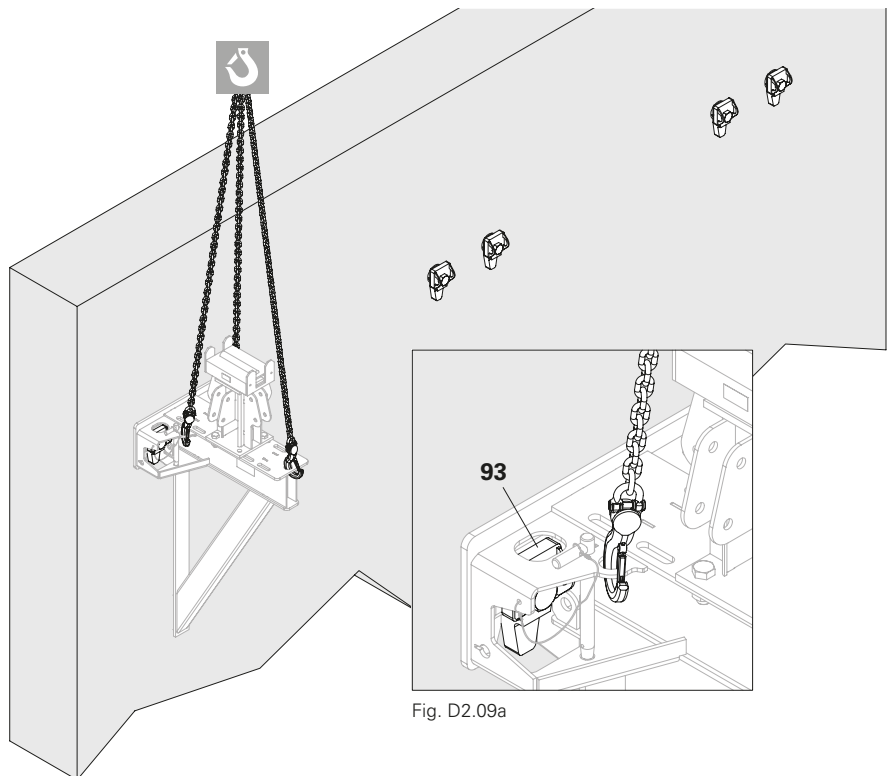

Fig. D2.09
1. Guide the Main Beam Bracket Alpha with the crane into the designated Anchor Sliding Piece-2 (**93**). (Fig. D2.09 + D2.09a)